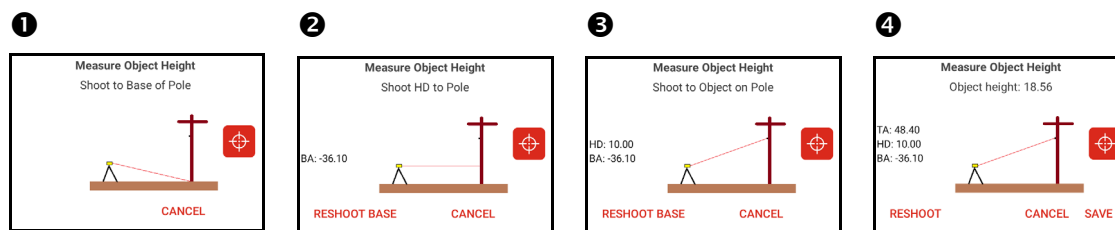

Figure 32
2. Follow the prompts (Figure 32) and the data will be saved to the NOTES tab.